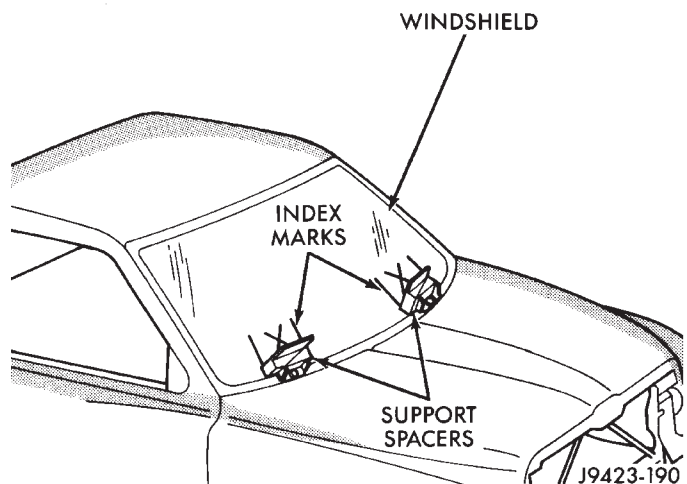

Fig. 3 Center Windshield and Mark at Support Spacers
(1) Place replacement windshield into windshield opening and position glass in the center of the opening against the support spacers. Mark the glass at the support spacers with a grease pencil or pieces of masking tape and ink pen to use as a reference for installation. Remove replacement windshield from windshield opening (Fig. 3).